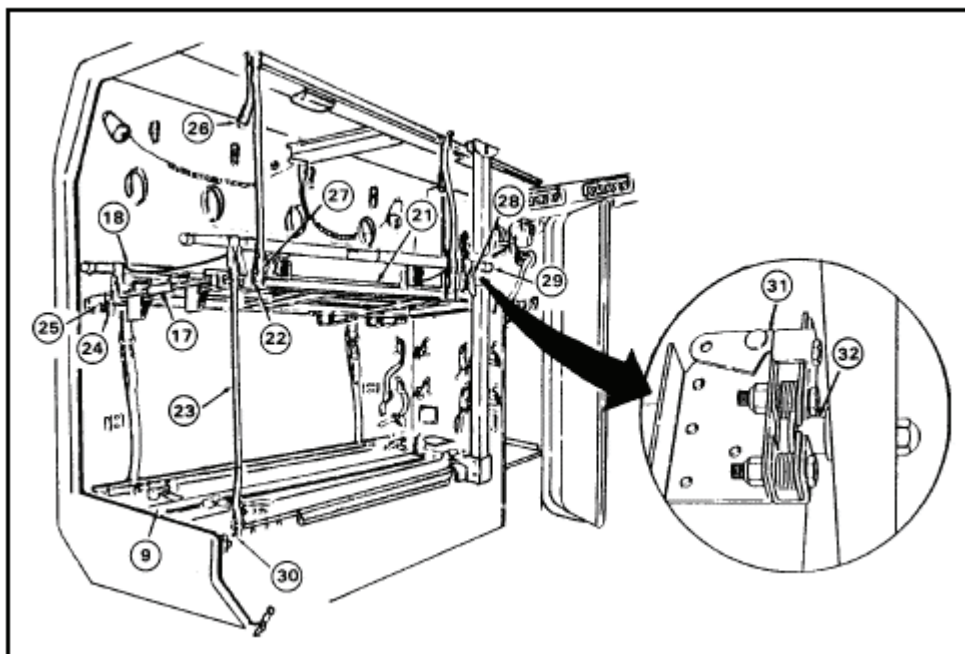

Figure 3-45. Prepare the upper litter rack
- (a) Unlock support braces (13).
- (b) Fold left and right rails (6) together.
- (c) Fold left and right litter rail legs (11) and feet (12) against rails (6).
- (d) Place folded litter rail extension (4) into stowage compartment (5) and secure with strap (3).
- (e) Close door (2) and turn latch (1) clockwise to secure door (2).
- a. Prepare the upper litter rack. Refer to Figure 3-45.